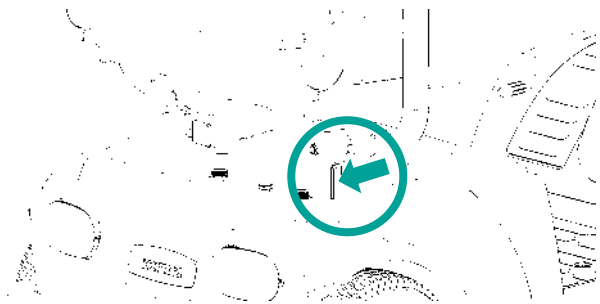

Figure 7.8 Drive Mode
7.12.1 Drive Mode: pull the lever completely towards the rear of the scooter and the scooter can be driven by motor power. (See Figure 7.8)